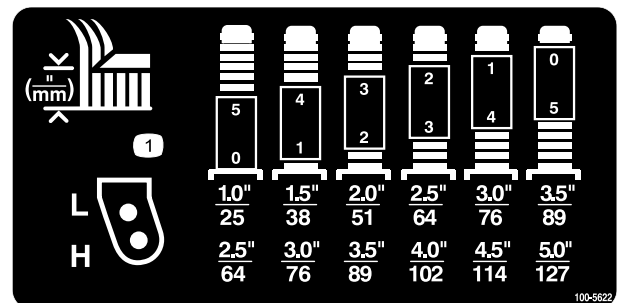

Figure 8
2. Position the castor wheel axles in the same holes in both castor forks. Refer to Figure 7 and Figure 8 to determine the correct holes for the setting.
Refer to Figure 8 to determine the combinations of spacers for the setting.